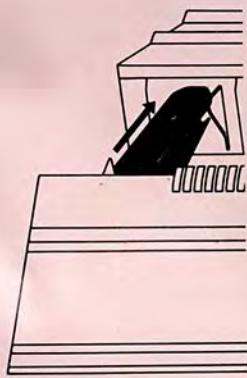

Fig. 6
6. Fit brackets of front bed into supports of back bed above clamps, let front bed slide back, then push upwards until it engages in upper position (working position), fig. 6.